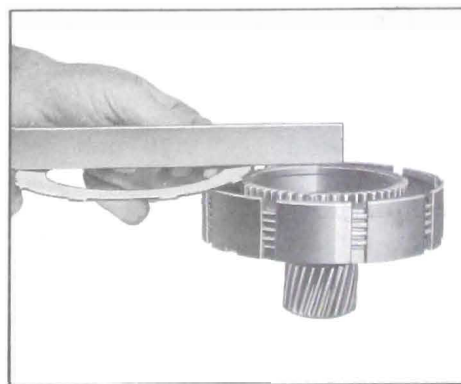

Figure 5-92—Checking "Dished" Side of Externally Splined Clutch Plate
4. Separate the internally splined (faced) clutch plates from the externally splined (plain steel) clutch plates. Internally splined plates are flat and may be installed in either direction. Externally splined plates are "dished" and all these plates must be installed with the "dish" in the same direction; however, the "dish" may be either up or down. Check each plate for "dish" with a straight edge, Figure 5-92, and stack plates so that all are "dished" in same direction.